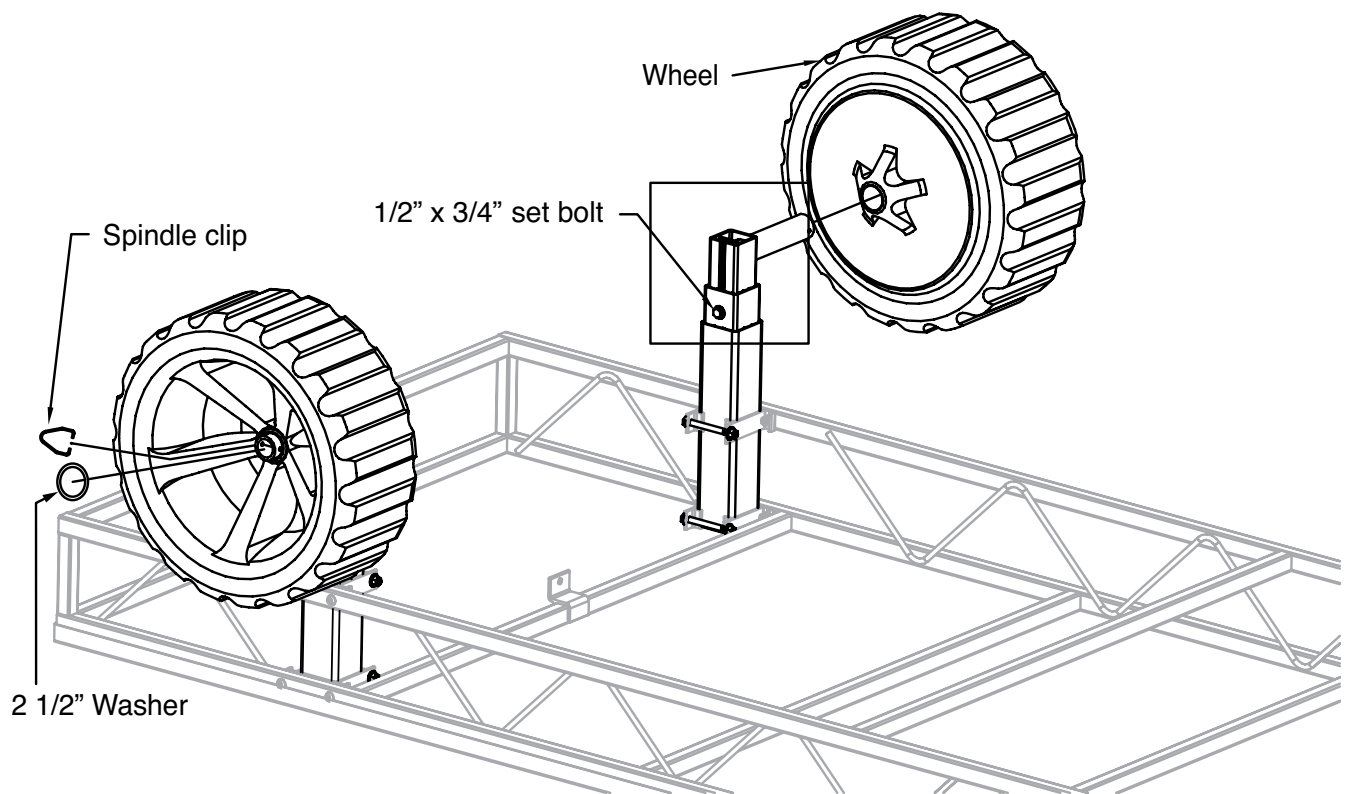

Fig. 2a
1. Square the wheel kit leg(s) with the dock as shown in Fig. 2a and tighten all the nuts and bolts. Torque to 20 ft/lbs.